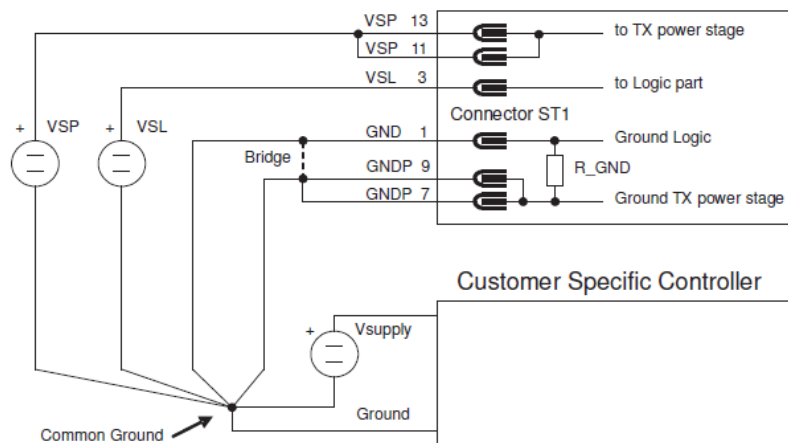

Figure 5.5 External Ground Connection
1. A high resistivity of the GNDP pins could cause a voltage drop across these pins, due to high transmitter power stage current (this does not apply to the supply pins of the logic section). If the grounds were connected to each other internally, this would also lift the internal logic ground and cause logic level compatibility problems with the Control Module (see Figure 5.5).
2. To provide greater flexibility when using long supply lines. Long VSP supply lines between the RFM and the Control Module cause a voltage drop across this supply line (again due to high-transmitter power stage supply current). This voltage drop would also lift the logic ground and cause logic level compatibility problems with the Control Module. This can be avoided by connecting the grounds externally in any of three different ways (see also Figure 5.5) as described below:
Cable lengths longer than 2m are not recommended. If the application demands cabling longer than 2m, the logic signals between the RFM and the Control Module should be done via a differential interface (for example RS422). Due to different ground potentials at different locations it may also be necessary to provide galvanic separation of the interface signals by, for example, opto-couplers. In this case, to avoid problems with difference voltages between GND and GNDP, these pins must always be connected directly at the RFM. As shown in Figure 5.5, a shorting bridge is necessary for this purpose, situated as close as possible to the RFM.